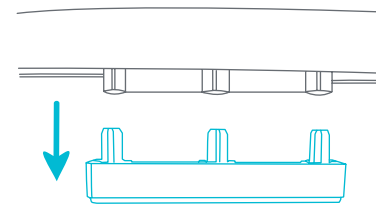

Fig. 12a
- **REMOVAL:** To remove, pull out the stopper (Fig. 12a).